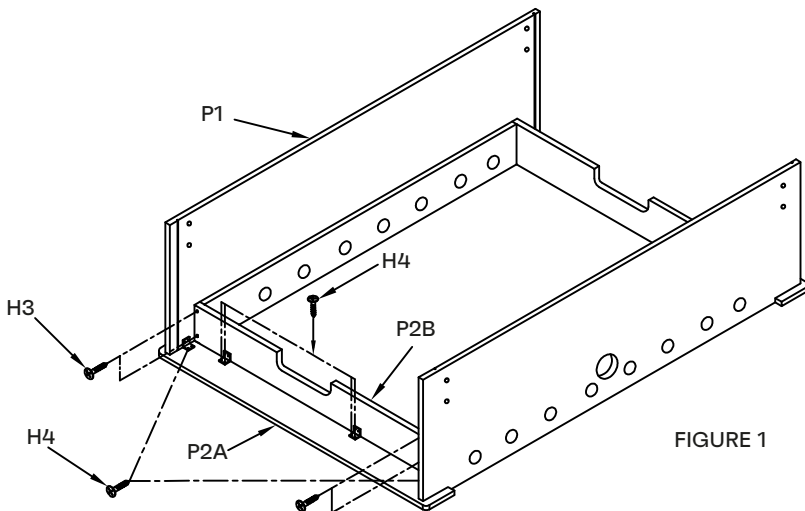

FIGURE 1
1. Attach the end panel bracket P15 to the inside of P2B and P2C. Place side panels P1 upside down with the slot facing inward as shown in figure 1. (Ball entry hole will be closest to the floor.)
2. Attach the two end panels P2B to the sidepanel P1 with screw H3 as shown in figure 1.
3. Attach the two end panels P2A to the sidepanel P1 with screw H4 as shown in figure 1.